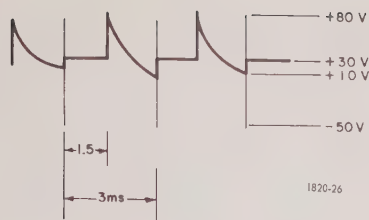

Figure 5-3. Neon-drive waveform, TP106 and TP107 (similar waveforms, 180° out of phase).
b. Make sure that the plug-in unit in use is not the source of the difficulty by applying about 4 V dc to the input terminals and observing the signal at test point TP101 on the main-amplifier board. This signal should be a 300-Hz square wave with rounded corners. If no signal is present or if the signal is nothing like a square wave, check the neon drive signals at TP106 and TP107. If the waveform shown in Figure 5-3 is present at both terminals, the fault is certainly in the plug-in unit. If this is the case, refer to the maintenance section of the instruction manual of the plug-in for further trouble-shooting procedures. If the neon-drive signal is faulty, check the "YE" cable and neon-bulb continuity with an ohmmeter, then remove and test Q118 through Q122.